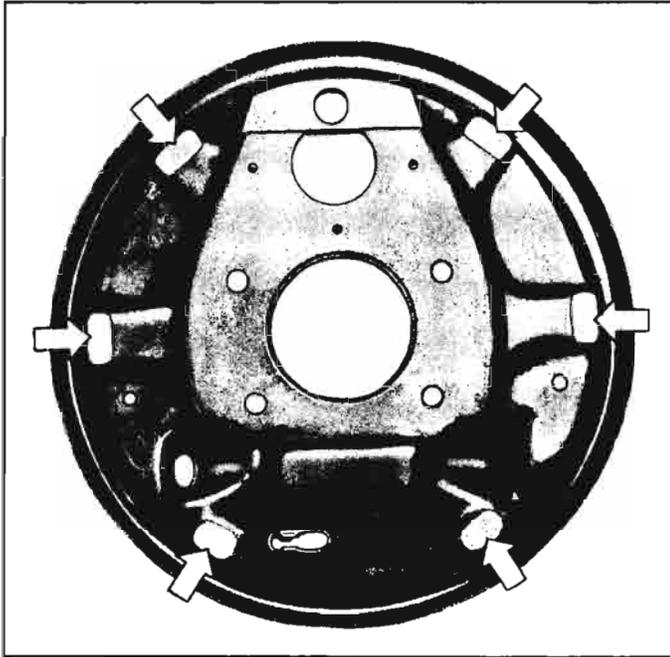

Fig. 5-17—Shoe Contact Surfaces on Flange Plate
4. Check all brake flange plate attaching bolts to make sure they are tight. Clean all rust and dirt from shoe contact faces on flange plate, using fine emery cloth (fig. 5-17).